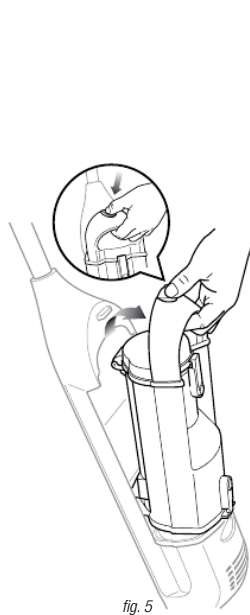

fig. 5
- 2 Press down on the dust cup release button (fig. 5) and pull out the dust cup.